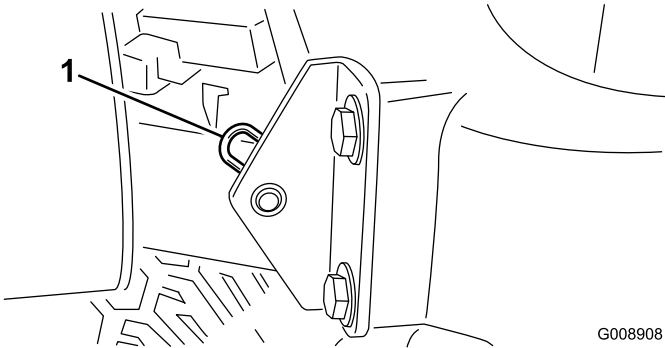

Figure 46
- 2. Remove the cotter pin that secures the hood pivot to the mounting brackets (Figure 46).